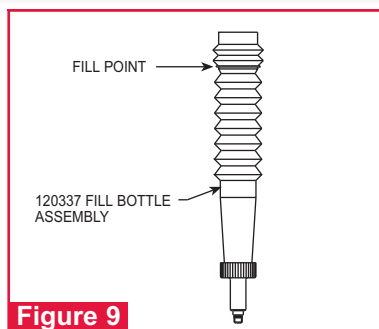

Figure 9
11. Hold Head/Handle (1) inverted in vice (with soft jaws). Place inverted Cylinder Assembly (35) on base of handle. Timing pin maintains orientation.
12. Assemble Gland assembly (25) with new seals (Fig. 9). Note orientation of polyseal. Apply Anti-Seize Compound (Huck P/N 508183) to threads of Gland Assembly. Screw gland into head/handle and Torque to 50 ft. lbs. using 1 3/8 socket wrench.(40) using 1/8 hex key (Fig. 2).